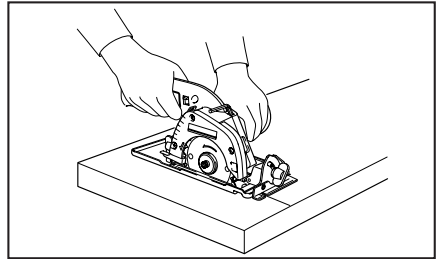

Fig. 5
17. Place the wider portion of the saw base on that part of the workpiece which is solidly supported, not on the section that will fall off when the cut is made. As examples, Fig. 5 illustrates the RIGHT